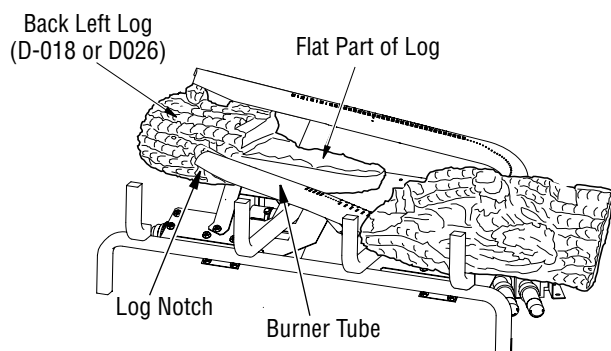
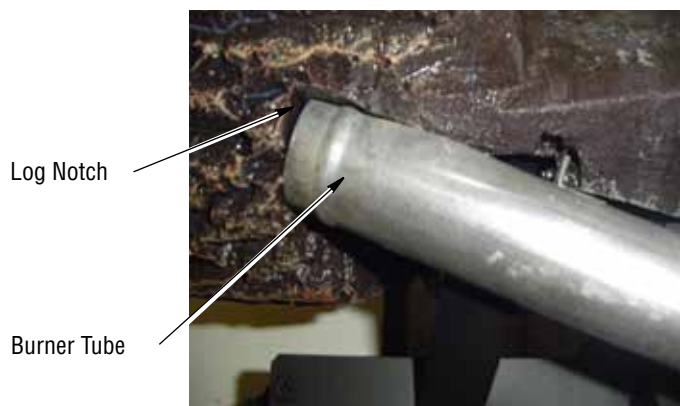

Figure 19 - Installing Back Left Log
Figure 19A - Installing Back Left Log
- Find the back left log (LMF30GTA/B or LMF30MOA/B models: D-018, LMF36GTA/B or LMF36MOA/B models: D-026). See **Figures 19, 19A, and 19B**. **Figure 19A** shows how the log must fit against the end of the burner. **Figure 19B** shows how the notch in log fits against the vertical portion of the burner tube. Place this log on the base assembly by inserting it from the left side as shown in **Figure 19**. You will need to twist the log slightly to get it to fit against the burners properly. It will rest even with the back edge of the pan.